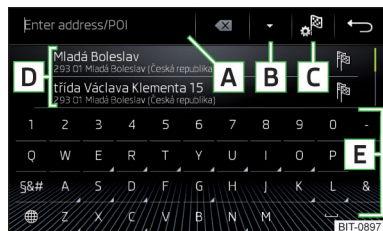
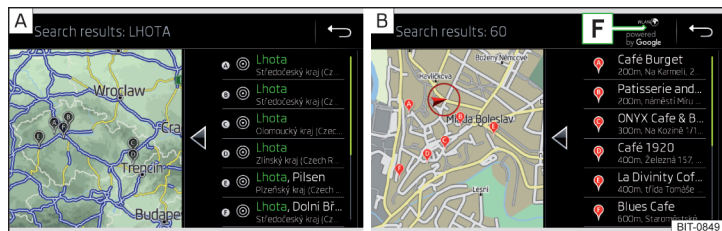

Fig. 184
Fig. 185 List of destinations found: in the navigation data/online
Function surfaces » Fig. 184 and » Fig. 185
A list of the destinations found is displayed in area **D** » Fig. 184.
- › or: Tap on function surface **B** » Fig. 184.
- Destinations found in the navigation data » Fig. 185 - **A**.
- Destinations found online » Fig. 185 - **B**.
In the destination search menu, a short list of last destinations is shown in area » Fig. 184 on page 148.